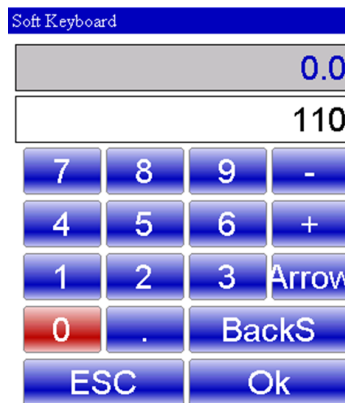

Figure 28 Soft Keyboard for setting not predefined angle of the piece
- By touching one of the height arrows starting from this  in the clockwise direction, the next segment will be taken to different predefined angles, that is 45, 90, 135, 180, -135,-90, -45. Pressing the soft-key  is possible introduce angles different from the predefined, like showed in figure 28